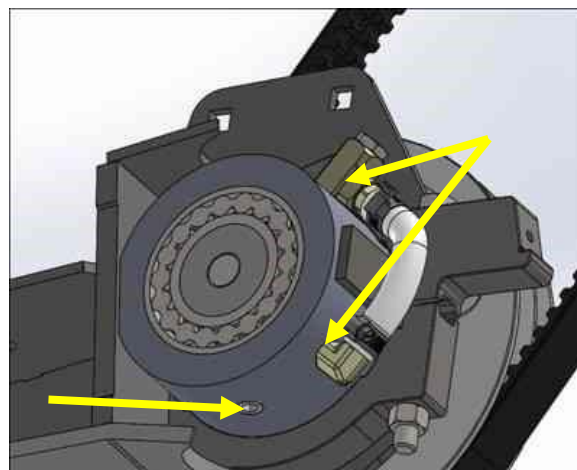

Figure 38
6. Remove the hose, fittings and drain the oil from the bearing. Note on model year 2019 and newer the drain plug on the bottom of the bearing will need to be removed to drain the oil. Figure 38